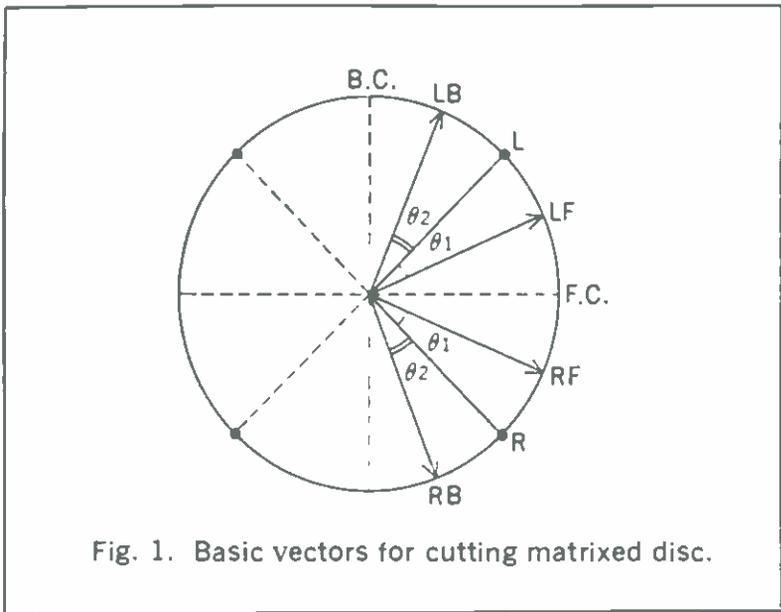

Fig. 1. Basic vectors for cutting matrixed disc.
Fig. 1 shows the basic matrixing used for cutting compatible discs with the Sansui matrixing system.
The equations (2) show that the left and right back are  $180^\circ$  out of phase with each other. Thus, any sound sources in the back in a quad program would sound very unnatural and unclear, and would have little directionality, even when the encoding is properly handled. The same will happen with other types of matrixing based on the vectors shown in Fig. 1.